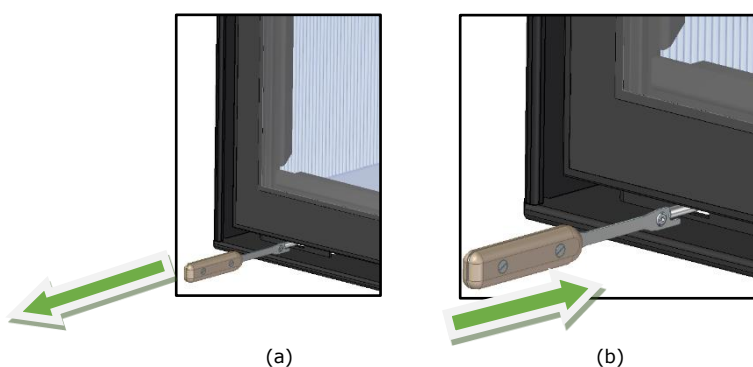

Figure 6 – a) Open air damper, b) Close air damper
- To open - Pull the regulator with the key that comes with the equipment, for greater performance and greater consumption of firewood, see Figure 6.
This also creates a high-speed washing effect of the preheated air over the entire interior surface of the glass panel, helping to keep the glass clean for longer, see Figure 6